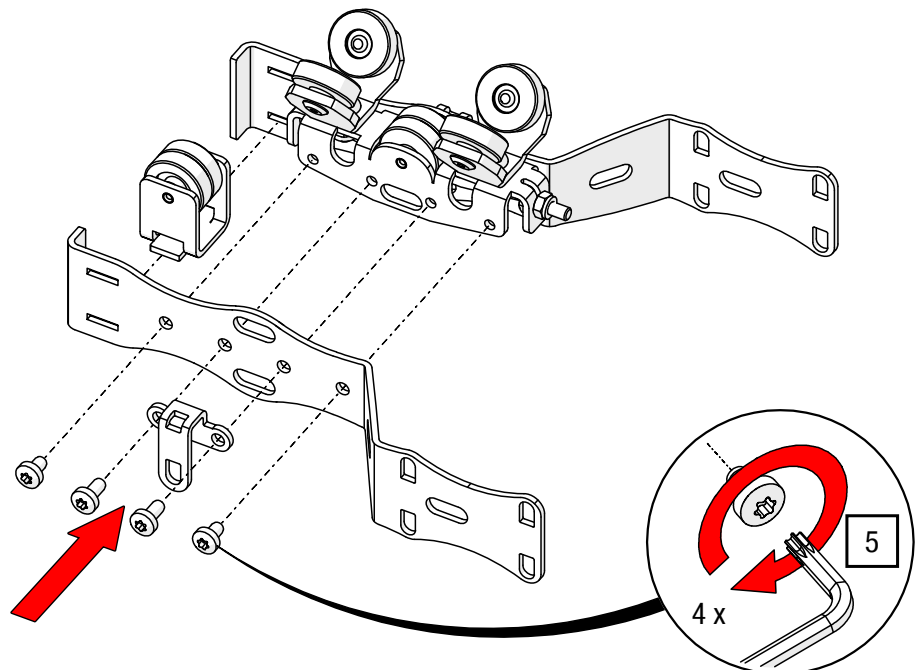

Fig. 62: OFFICE master runner overlap arm – Mount overlap arm with support roller
5. Insert the support roller into the groove provided, screw the master runner to the overlap arm and the lateral eyelet plate using a TORX®-key T20 until the plate is flush with the master runner (see Fig. 62).